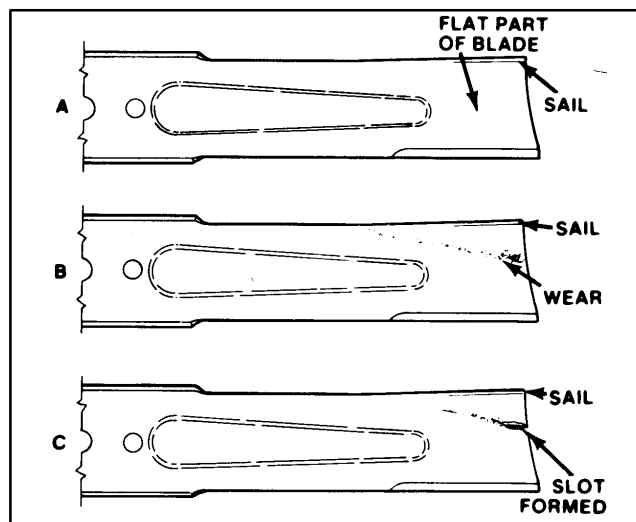

Figure 21
2. Examine cutting ends of the blade carefully, especially where the flat and curved parts of the blade meet (Fig. 21-A). Since sand and abrasive material can wear away the metal that connects the flat and curved parts of the blade, check the blade before using the machine. If wear is noticed (Fig. 21-B), replace the blade: refer to Removing Cutter Blade.
If blade is allowed to wear, a slot will form between the sail and flat part of the blade (Fig. 21-C). Eventually a piece of the blade may break off and be thrown from under the housing, possibly resulting in serious injury to yourself or bystander.